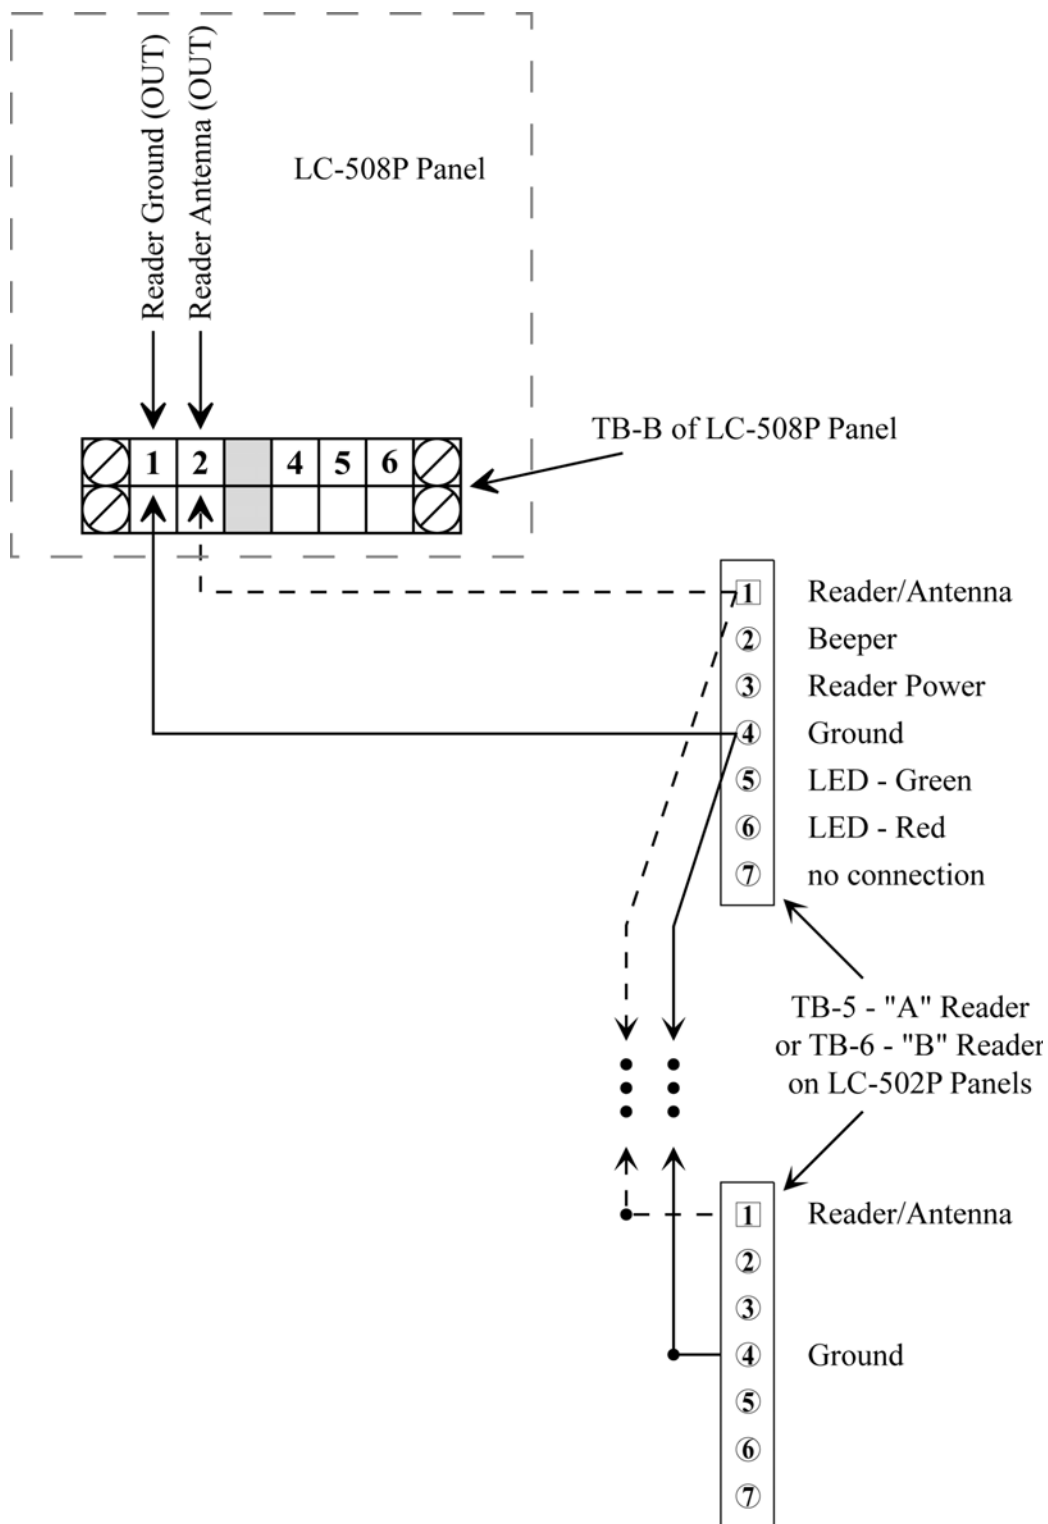

Figure 11: LC-508P to LC-502P Reader Wiring Connections
2. Daisy-chain the Antenna and Ground reader connections from the LC-508P panel to the LC-502P panel(s). Make the connections per the information in Table 5 and Figure 11 on page 17.